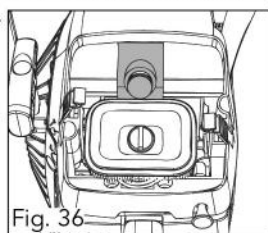

Fig. 36
2. Pull the spark plug lead off the spark plug end (fig. 36).
3. Loosen (anti-clockwise) the spark plug using the larger socket side of the multi-tool (25).